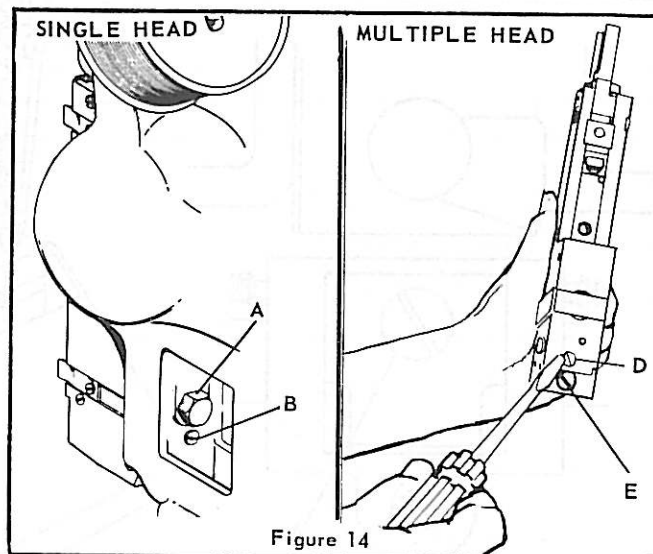

Figure 14
B. Head/Clincher Alignment (Figure 14)